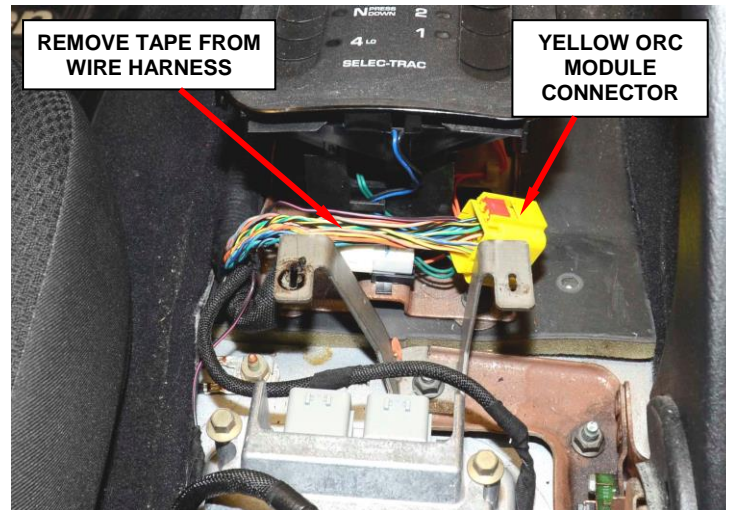

Figure 18 – Remove Tape from Wire Harness
5. Remove and discard 2 inches (52 mm) of wiring harness tape from the ORC module wiring harness (Figure 18).